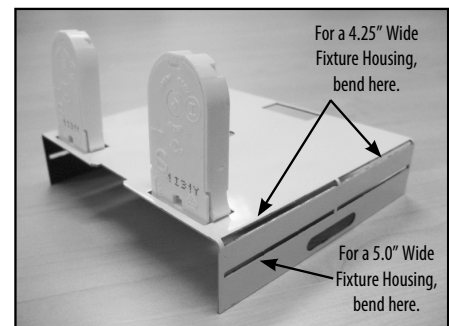

Figure 2. Fixture Bracket Socket Plates for Installation on a 4.25” wide Luminaire Housing.
5. Check the width of the fixture housing! If the fixture housing is 4-inches wide, bend the socket plate at the points as shown in Figure 2. If the fixture housing is 5-inches wide, bend the socket plates at the points shown in Figure 2.